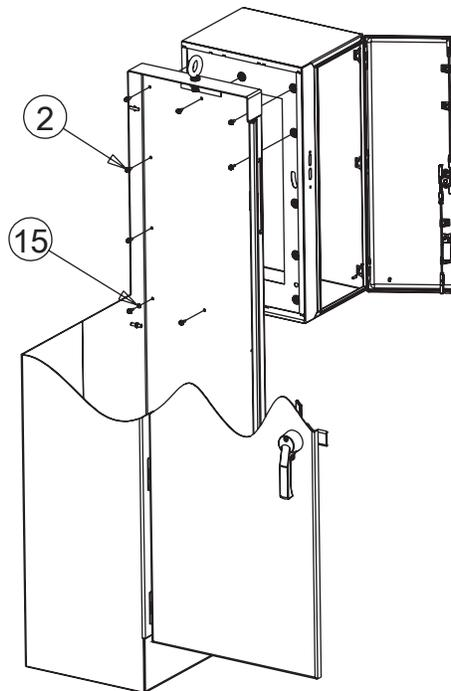

Figure 1C
4. Referring to Figure 1C, raise and support the Sequestr enclosure to the side of the control enclosure. Alignment can be aided by inserting guide pins through one or two holes from the inside of the control enclosure.
5. Install eight (8) M6x20mm washer head cap screws (Item 2) from inside the control enclosure at the locations shown and tighten.